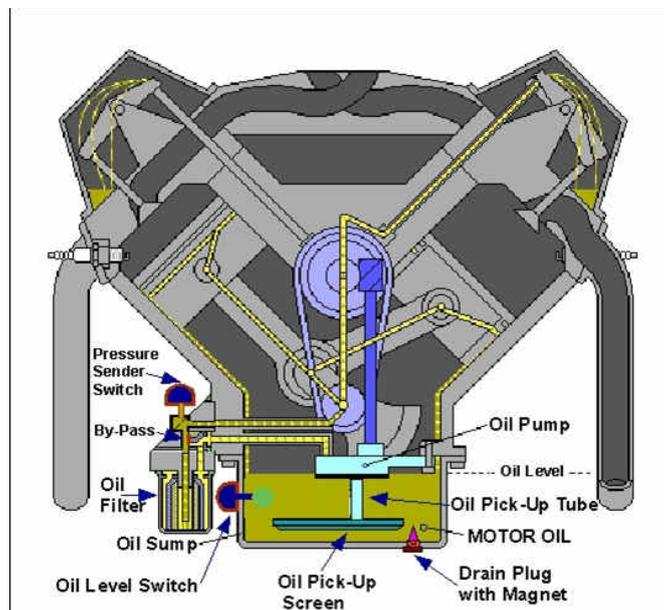

Fig. 2.12.8 Lubricant System of DG
2. As per the figure 2.12.8 explain the Lubrication system to the participants.